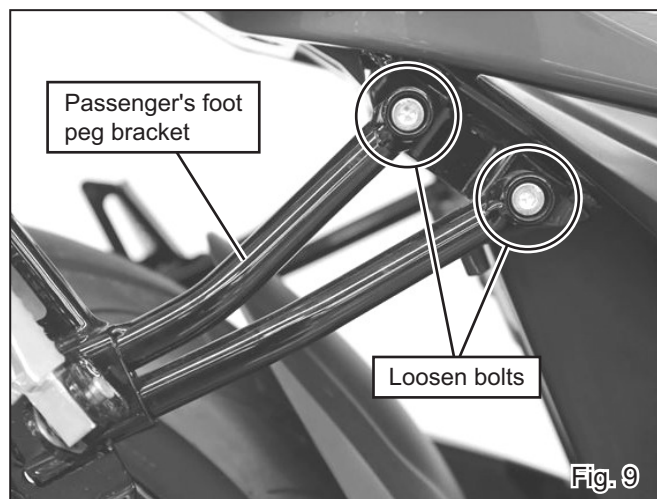

Fig. 9
- 7) For adjusting position of silencer, loosen bolts on right hand passenger's foot peg bracket (See Fig. 9).